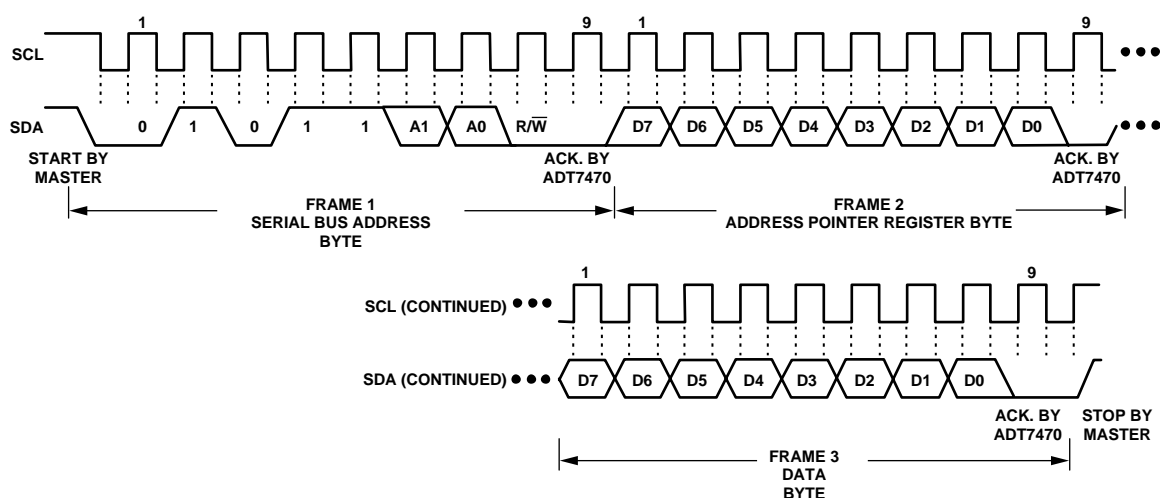
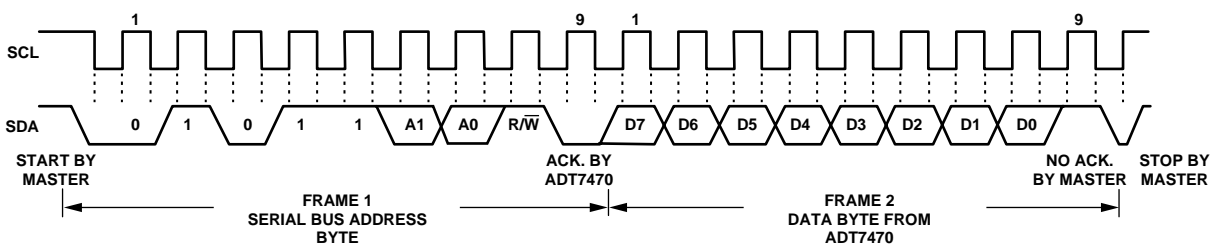

Figure 7. Writing a Register Address to the Address Pointer Register, then Writing Data to the Selected Register
Figure 9. Reading Data from a Previously Selected Register
This is illustrated in Figure 7. The device address is sent over the bus followed by R/\overline{W} set to 0. This is followed by two data bytes.
A read operation is then performed consisting of the serial bus address, R/\overline{W} bit set to 1, followed by the data byte read from the data register. This is shown in Figure 9.
- In Figure 7 to Figure 9, the serial bus address is shown as the default value 01011(A1)(A0), where A1 and A0 are set by the address select mode function previously defined.